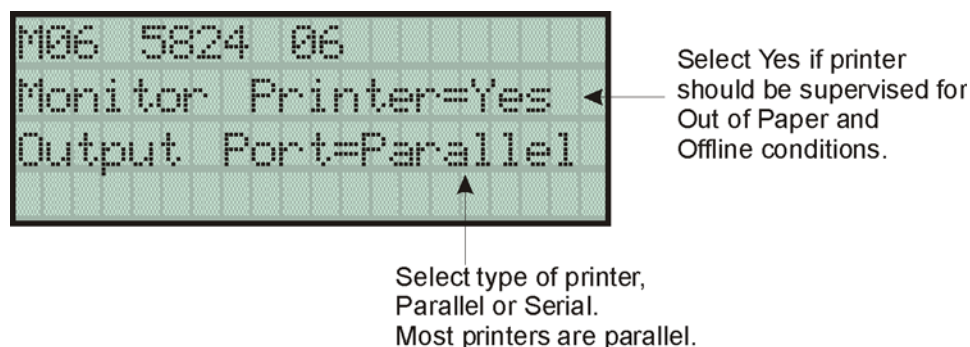

Figure 4-18 Selecting Printer and Output Port Options
5. Press ENTER to bypass the next two screens. A screen similar to the one shown in Figure 4-18 will display.